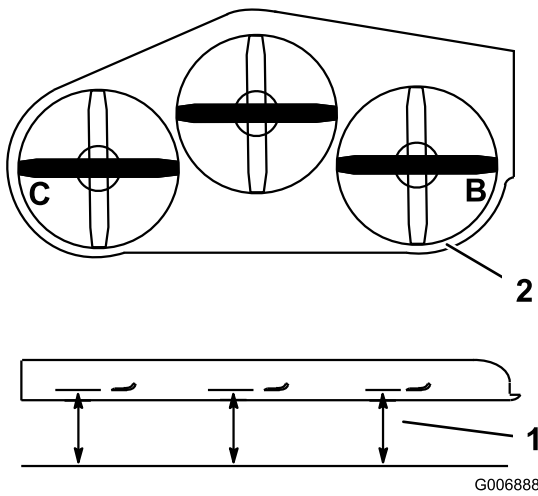

Figure 70
1. Position the **right** blade side-to-side (Figure 70).
2. Measure the right blade at the **B** location, from a level surface to the cutting edge of the blade tip (Figure 70).
4. Position the left blade side-to-side (Figure 70).
5. Measure the left blade at the **C** location (Figure 70), from a level surface to the cutting edge of the blade tip.